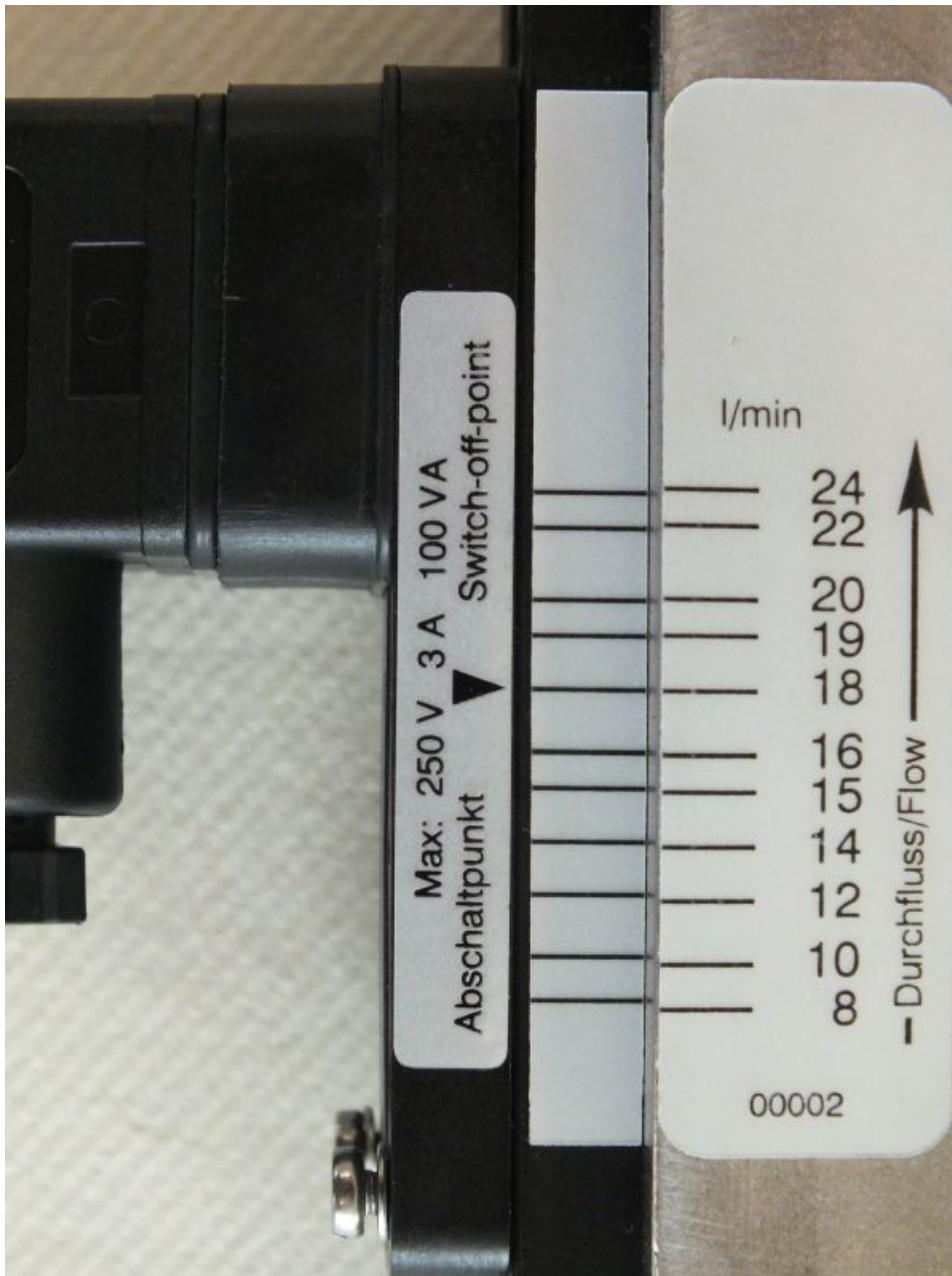

Fig. 40: Reading-off the switch point (example)
1. ➤ Make sure that the setting arrow, the scale mark on the additional label on the guide rail and the scale mark of the switch point adjustment scale are in alignment. (Fig. 40)